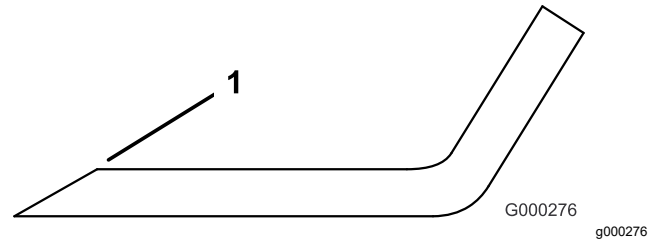

Figure 26
4. Examine the cutting edges of all of the blades and sharpen the cutting edges if they are dull or nicked (**Figure 26**).
Note: Sharpen only the top of the cutting edge and maintain the original cutting angle to ensure sharpness (**Figure 26**). The blade remains balanced if the same amount of metal is removed from both cutting edges.